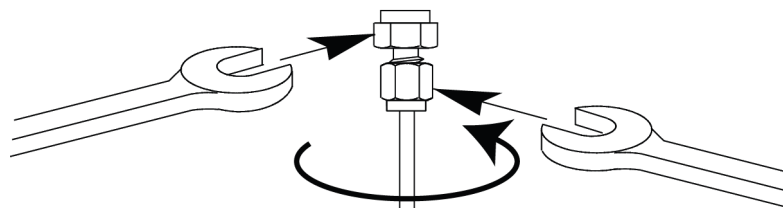

Figure 57. Final tightening
7. For 1/8-inch Swagelok fittings, use a pair of wrenches to tighten the fitting 3/4 of a turn. See **Figure 57**.